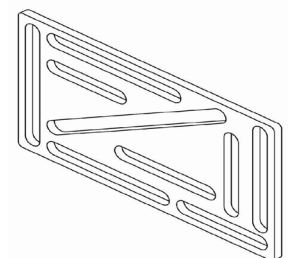

Fig 4.3.1 Mounting Plate
- Utilizing the mounting plate supplied determine a suitable location in the pump / engine compartment of the carrier machine to mount the control valve. The mounting plate can either be welded or bolted into position. (Fig 4.3.1 Mounting Plate)